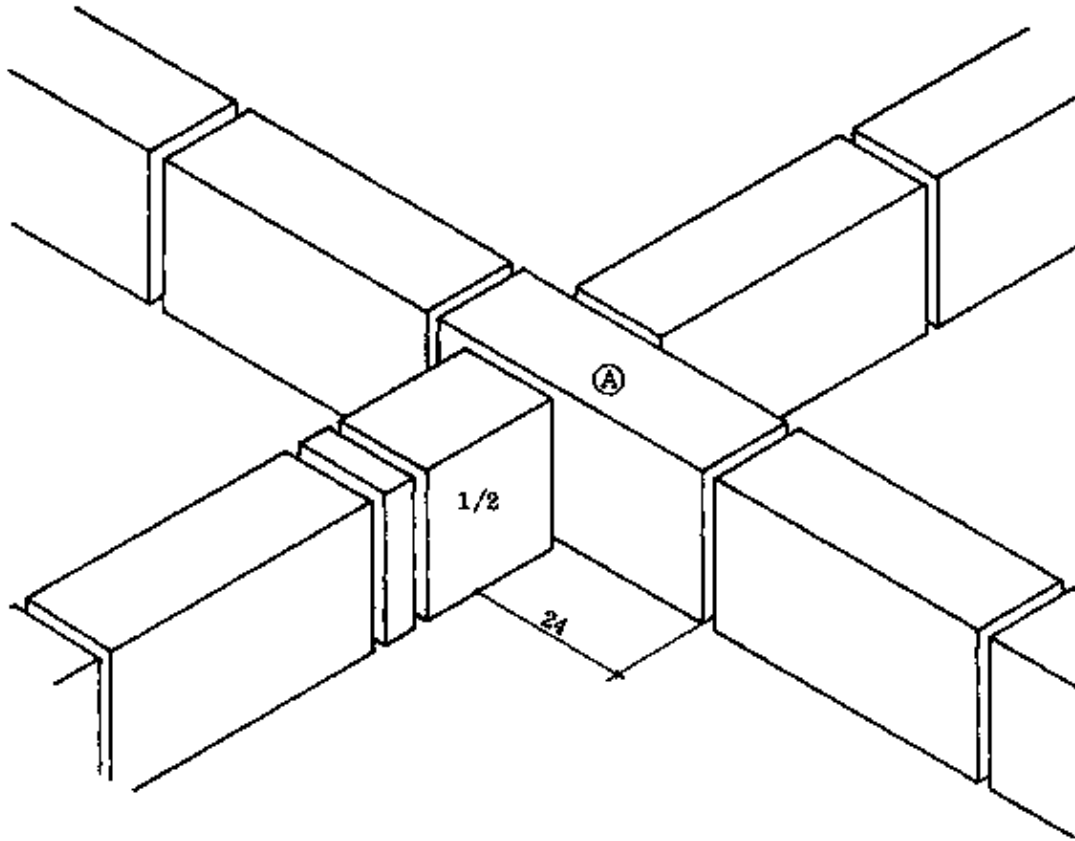

Fig. 1
Fig. 1 shows the first course. The through wall consists of only full blocks, while the crossed wall starts on one side with a 1/2 block combined with a 5 cm block. This is continued in all four directions with full blocks. The through-going block (A) must extend past the crossed wall by 24 cm, which is the length of a 1/2 block plus the joint.